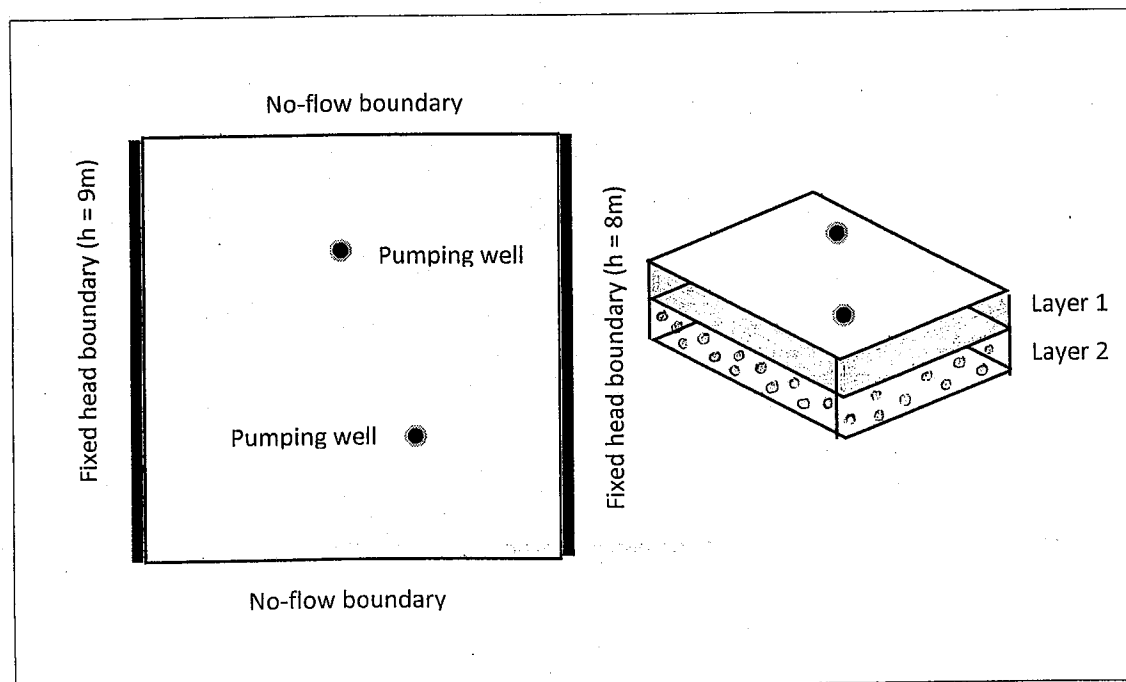

Figure 2.1. Schematic configuration of the aquifer system with pumping wells
2. Two pumping wells are located in an aquifer system consisting of two stratigraphic units with an areal extent of 1 km x 1 km. It is bounded by no-flow boundaries on the north and south. The western and eastern boundaries of the aquifer system are rivers that are in full hydraulic contact with both units. These boundaries can be considered as fixed-head boundaries. The pumping wells supply water to a community and they penetrate both stratigraphic units (Figure 2.1).